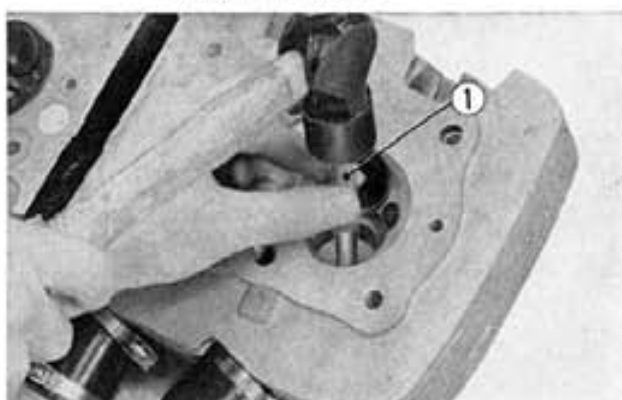

Fig. 3-47 ① Valve guide removing tool
3. Remove the valve guide using a valve guide removing tool (Tool No. 07942-3000000). (Fig. 3-47)